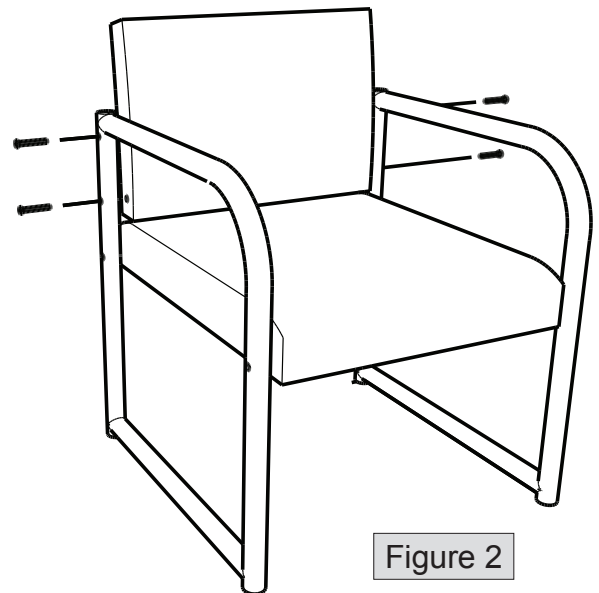

Figure 2
3. Connect back cushion to leg frames using Allen bolts, as shown in figure 2. Push down on back cushion as necessary to align holes.